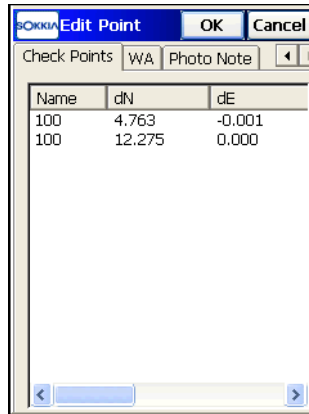

Figure 6-6. Check Points
6. If the point is contained in multiple point objects, these points will display in the *Check Points* tab on the *Edit Point* screen (Figure 6-6 on page 6-5).